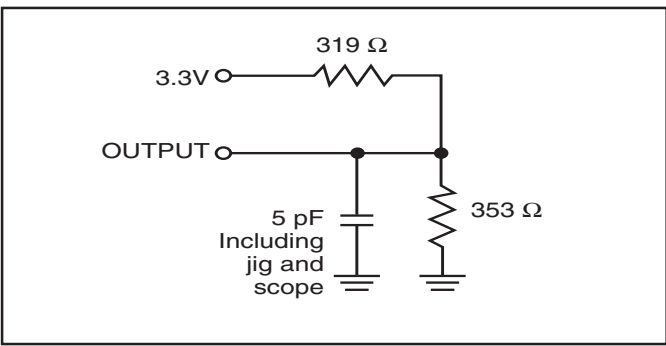

Figure 2.
2. Tested with the load in Figure 2. Transition is measured ± 500 mV from steady-state voltage.
2. Tested with the load in Figure 2. Transition is measured ±500 mV from steady-state voltage. Not 100% tested.
2. Tested with the load in Figure 2. Transition is measured ± 500 mV from steady-state voltage. Not 100% tested.